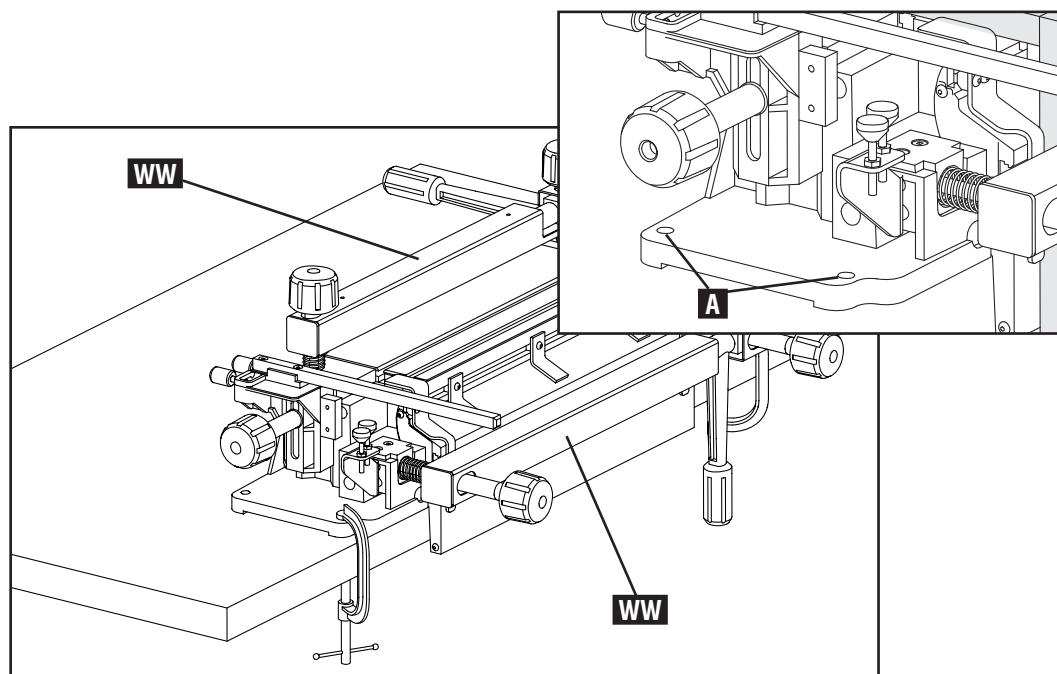

Fig. C1
The OMNIJIG® base is designed so it can be either clamped to the edge of a sturdy workbench (as shown in Fig. C1) or bolted to the table through the holes (A) Fig. C1 provided in the base. The OMNIJIG® should be secured using one of these mounting methods at all times.
**NOTE:** When carrying the jig, grab the workpiece mounting bars (WW) Fig. C1 for best support.